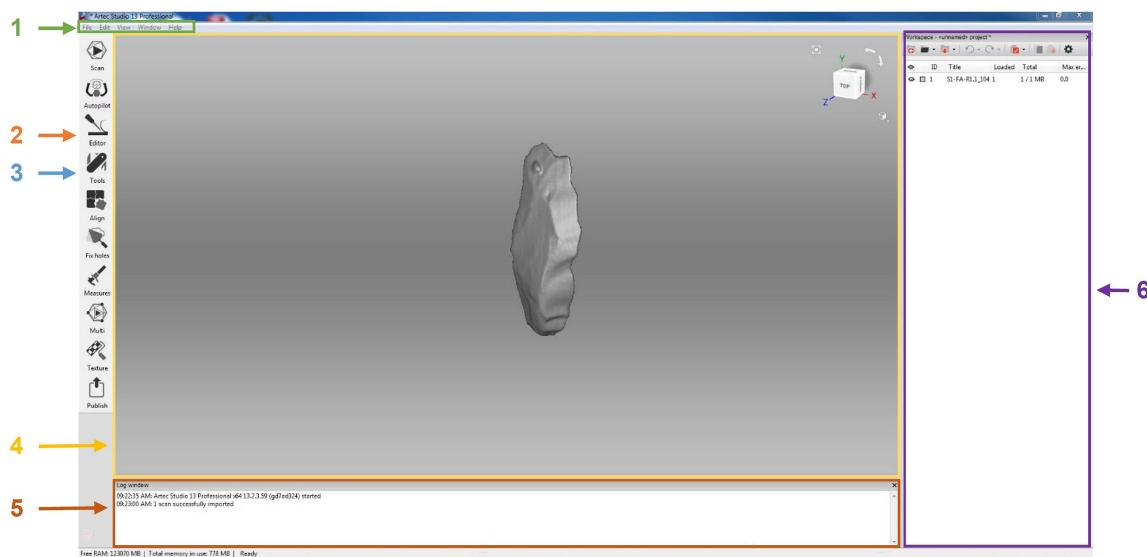

Fig. 22: Artec Studio program overview
- 27** Load 3D model into Artec (Fig. 22).